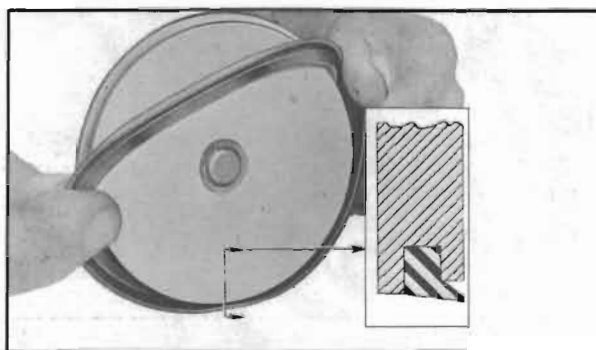

Figure 5-70—Installation of Servo Piston Seal
4. Worn or damaged piston seals should be replaced. When a new seal is installed on a piston make sure that the lip fits over the smaller diameter land. See Figure 5-70.